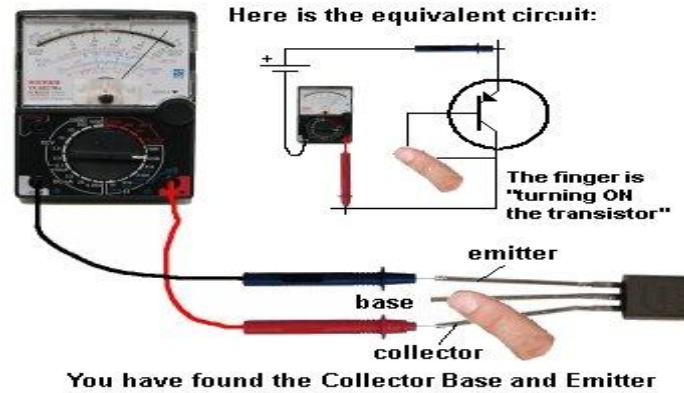

Figure 2.14: Identifying the Collector and Emitter of a PNP transistor
6. Alternatively, for a PNP transistor, place the two leads of the meter on the remaining two pins of the transistor and press hard, the pointer will swing to almost full scale as shown in Figure 2.14.